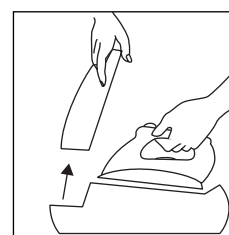

fig. 1
- Whilst holding the iron steady on its rest pull the water tank up by its handle using your free hand (fig. 1).